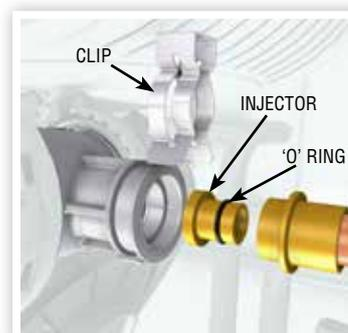

FIGURE 34. BURNER INJECTOR
18.2.2 Remove the gas pipe securing clip from venturi. See Figure 34.